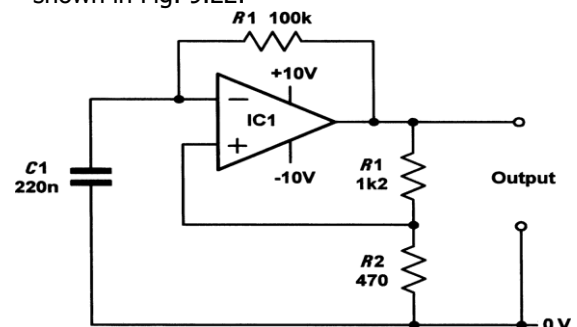

Figure 9.22 See Questions 9.4 and 9.5.
- 9.4 Determine the peak-peak voltage developed across C_1 in the oscillator circuit shown in Fig. 9.22.
- 9.5 Determine the periodic time and frequency of the output signal produced by the oscillator circuit shown in Fig. 9.22.